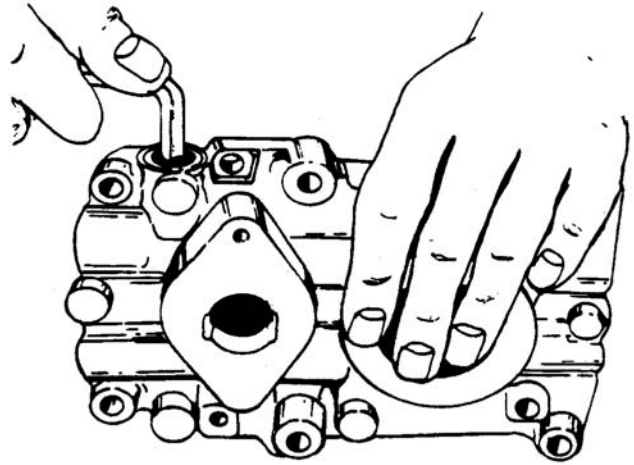

Figure 6-31. Plug Removal
- a. Remove plug. See Figure 6-31.